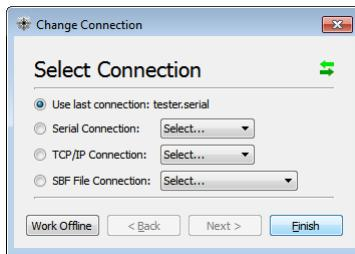

Figure 2-3: Connection dialog
4. The Change Connection dialog (see Figure 2-3 on page 21) will appear. For the first connection, choose Serial Connection | Create New | Next>.
On startup, RxControl pops up a Change Connection dialog asking the user to specify the communication settings (see Figure 2-3). The user can choose between four connection options:
If connections files are available at startup, RxControl displays the `Use Last Connection` option and specifies the name of the corresponding connection file in the Change Connection dialog (see Figure 2-3 on page 21).
If RxControl is already running, the Change Connection dialog (see Figure 2-3 on page 21) can be opened by choosing File | Change Connection in the RxControl's main window.